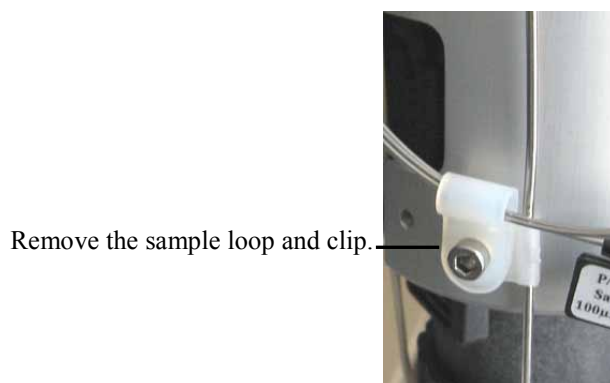

Fig. 49: Sample loop secured on the injection valve support
9. Secure the sample loop on the injection valve support (→ Fig. 49).